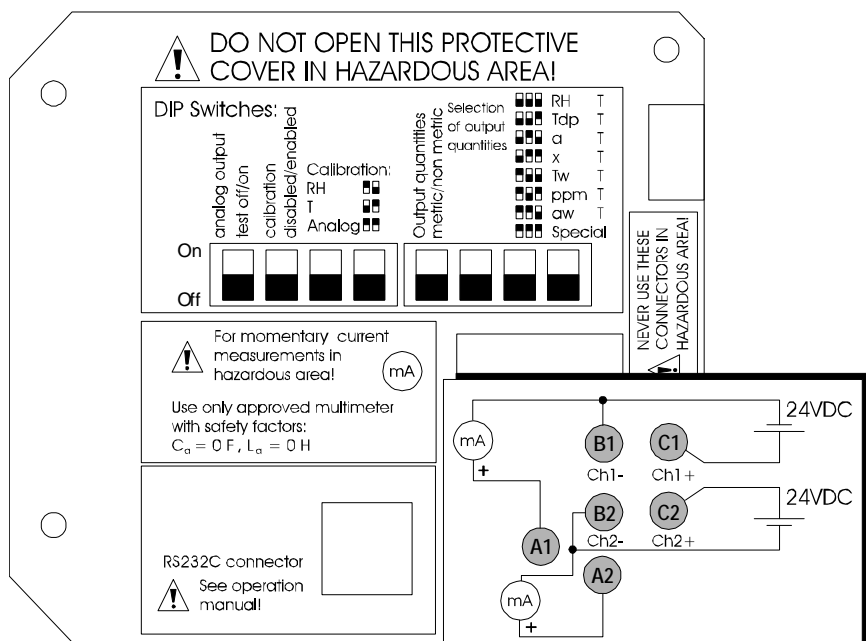

Figure 25 Connecting Power Supply and Multimeter for Calibration
1. Connect a power supply (12 ... 24 VDC, with a serial port the minimum supply voltage is 15 VDC) to the terminals B1 (-) and C1 (+) (Ch 1) with banana plugs, see Figure 25 on page 61.